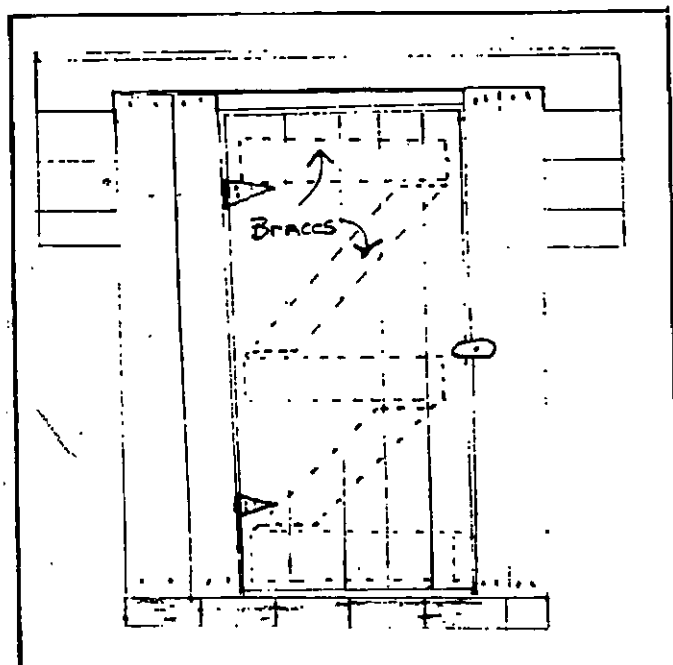

FIGURE 75
- Step 7. Build door of 1 X planking using a double Z frame. (See Fig. 75)